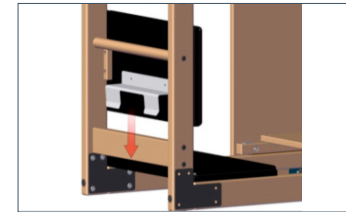

FIGURE 14
Refer to Figure 14. Locate the metal bracket on the back of the Vertical Foot Plate and slide it over the bottom cross-brace on Ladder (B).